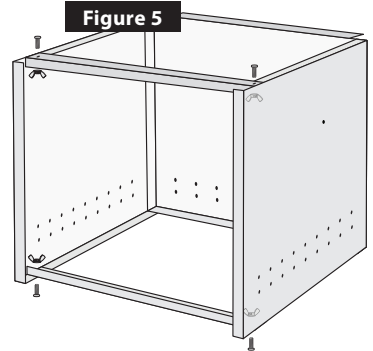

Figure 5
6. **BRACES:** Attach the top and bottom braces to the side panels by pushing a bolt through the pre-drilled holes and fastening with a wing nut. It is a little easier to do the top brace first. **Figure 5.**